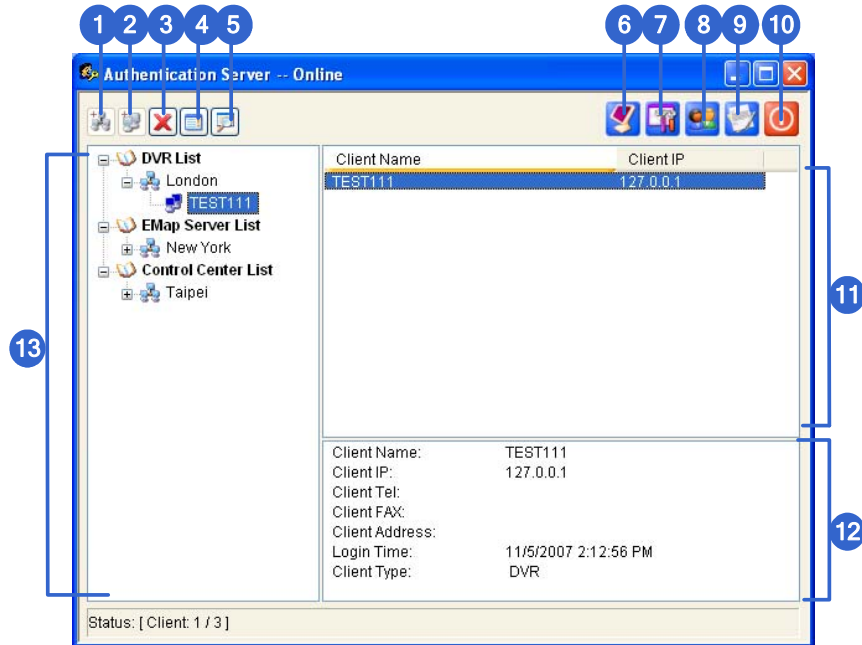

Figure 11-12
4. You can also arrange multiple clients under a group by highlighting a list and clicking the **Add An Area** button (No. 1, Figure 11-12). The created group appears under the selected List.
1. Click the **Account Setup** button (No.8, Figure 11-12) and select **Password Setup**. The Password Setup dialog box appears.
6. In AuthServer, click the **Account Setup** button (No.8, Figure 11-12) and select **Active Directory Setup**. This page appears.
1. Click the **Server Setup** button (No. 7, Figure 11-12). This dialog box appears.